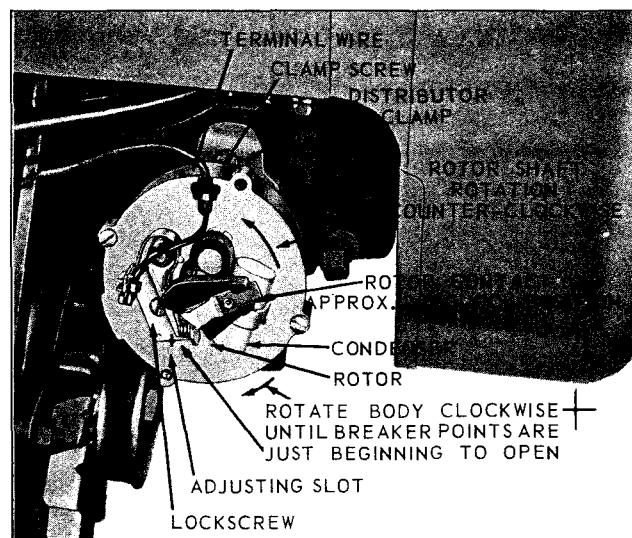
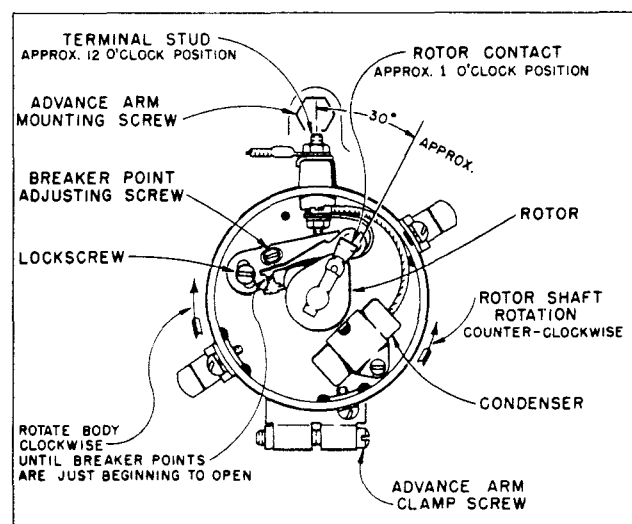

Fig. 7, DELCO-REMY DISTRIBUTOR
Fig. 7A, PRESTOLITE DISTRIBUTOR
4. **DISTRIBUTOR TIMING:** With the No. 1 piston now on *TDC* of the compression stroke, refer to Fig. 7 for the revised *Delco-Remy* distributor or Fig. 7A for *Prestolite*, and mount distributor as follows:
- b. Hold distributor with face up and *terminal wire* or *terminal stud*, away and in a 12 o'clock position as shown. Mount rotor on shaft and turn until the *rotor contact* points in an approximate 2 o'clock position as illustrated in Fig. 7, or 1 o'clock position as in Fig. 7A.
- d. Mount *distributor clamp* to drive housing, Fig. 7, but do not tighten screw. If applicable, as per Fig. 7A, tighten *advance arm mounting screw* to the drive housing.